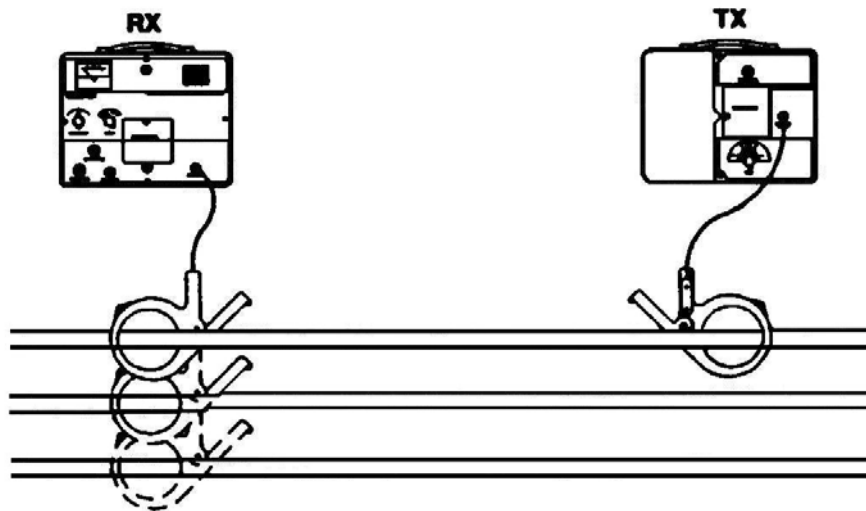

Figure 4-11: Position of Metroclamps When Using Two
- 4 Place the Metroclamp around each conductor in succession, making sure that the jaws are fully closed. The conductor with the highest field strength indication is the target conductor. (Figure 4-11)